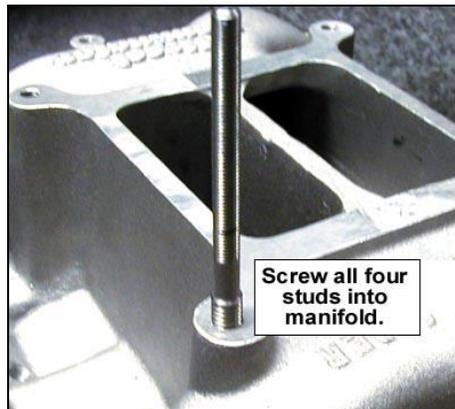

Figure 2
2. Screw all four studs into the intake manifold. See Figure 2. The short threaded end of the stud will be screwed into the manifold. You may wish to use a tap (5/16-18) to clean the threads in the intake manifold.